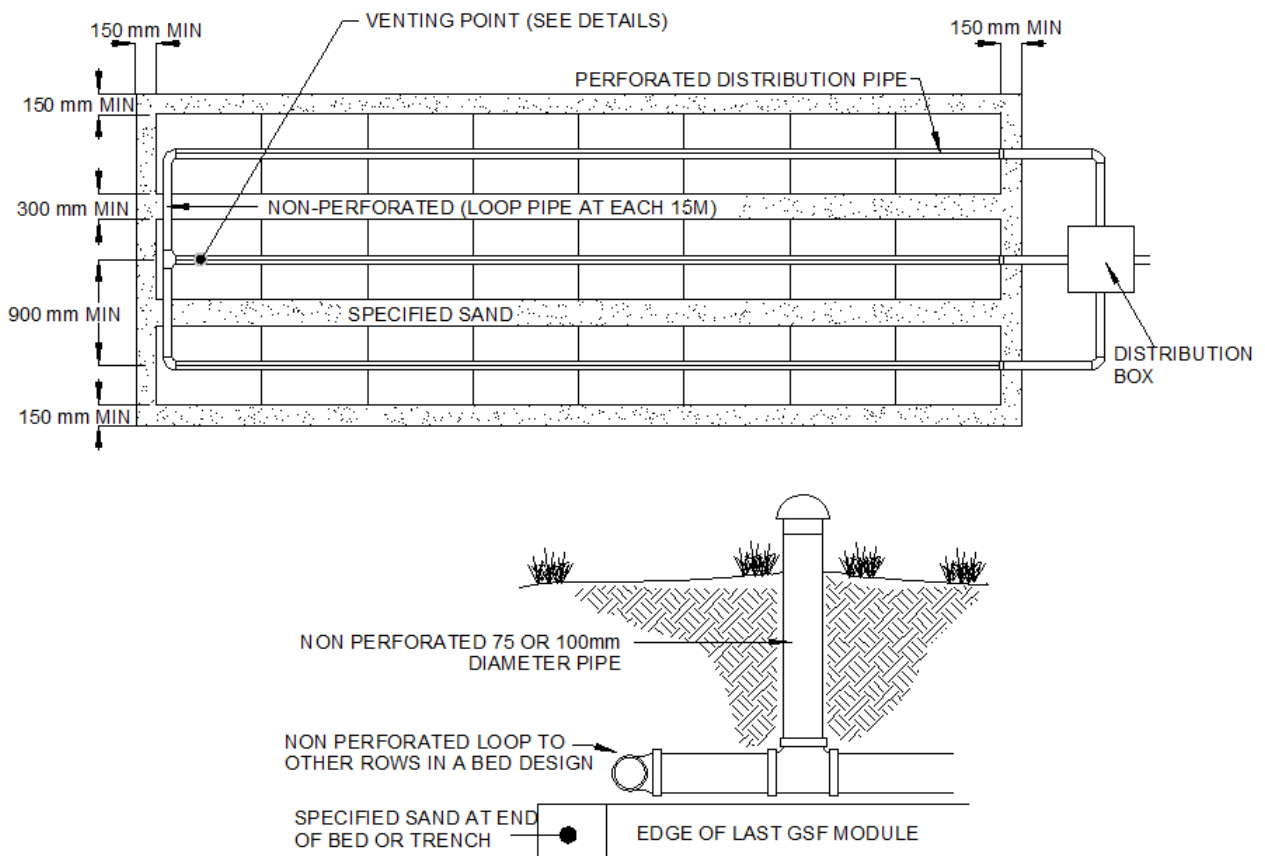

Figure 9: Level Bed Plan View
9. Center approved 100 mm (4 in.) Ø perforated distribution pipe lengthwise over modules with orifices at the 5:00 and 7:00 pm positions. For Gravity Systems, connect mid points on level bed systems on rows over 15 meters long. See Figure 9.